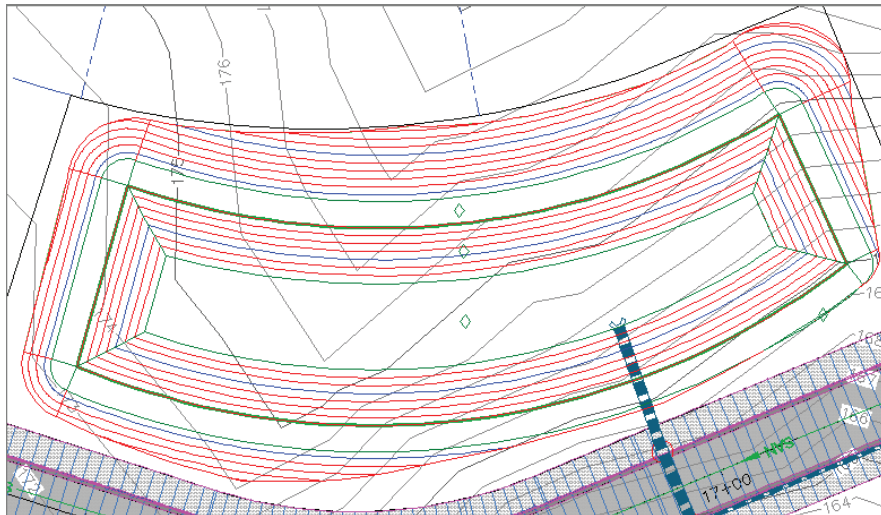

FIGURE 17.1 A grading design for a pond
The final product of a grading design is a surface—the same type of object you used to model the existing terrain in Chapter 4, “Modeling the Existing Terrain Using Surfaces.” As you may recall, to create a surface representing existing ground (EG) elevations, you use breaklines drawn along linear terrain features such as curb lines, ditch lines, and so on. You can use the Civil 3D tools to make these breaklines from data collected in the field by surveyors. To create a design surface, you draw breaklines along curbs and ditch lines that are *going* to be built in the field. The process is fundamentally the same as creating an EG surface except that, in this case, the linear features are part of your design. For example, in Figure 17.1, you see the grading design for a pond represented by the red and blue contours. Civil 3D tools were used to draw the edges of this pond according to the required design specifications such as size, shape, depth, and so on. The objects representing the edges were then used to build a pond surface.